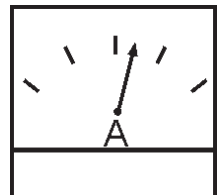

Figure 51. Ammeter (Load)
12. Observe the generator's ammeter (Figure 51) and verify it reads the anticipated amount of current with respect to the load. The ammeter will only display a current reading if a load is in use.